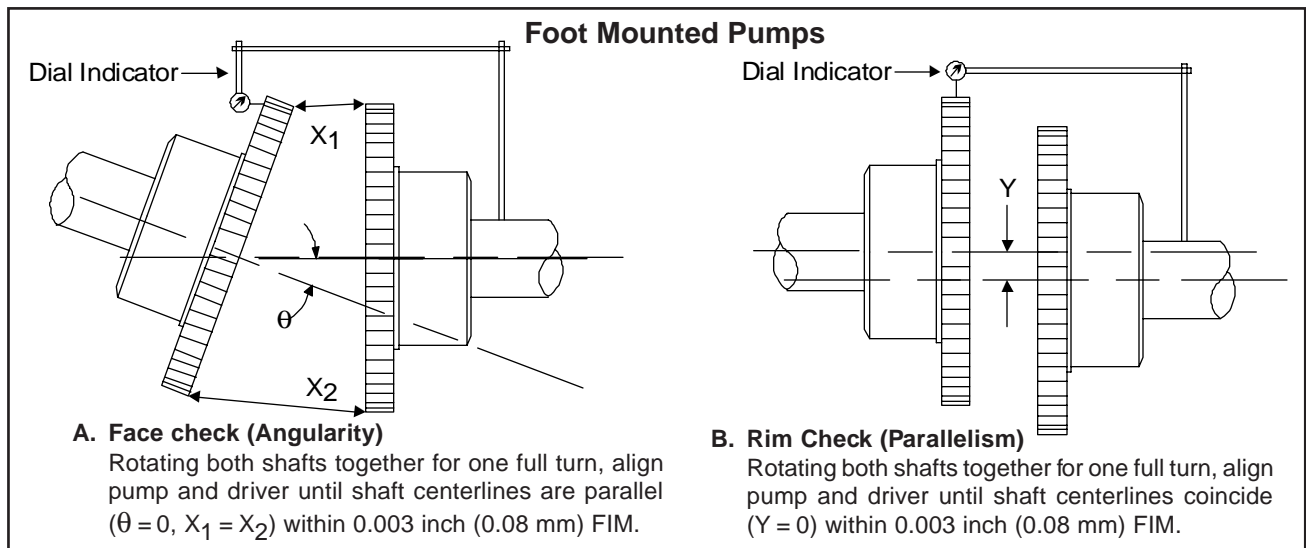

Figure 4 – Coupling and Hub Alignment
- Perform alignment of pump and driver shafts using dial indicators. Acceptable alignment has been attained when FIM (Full Indicator Movement) is less than or equal to 0.003 inch (0.08 mm) for face (angularity) and rim (parallelism) readings at or near coupling outer diameter while rotating both shafts together one full turn (360°). See Figure 4.